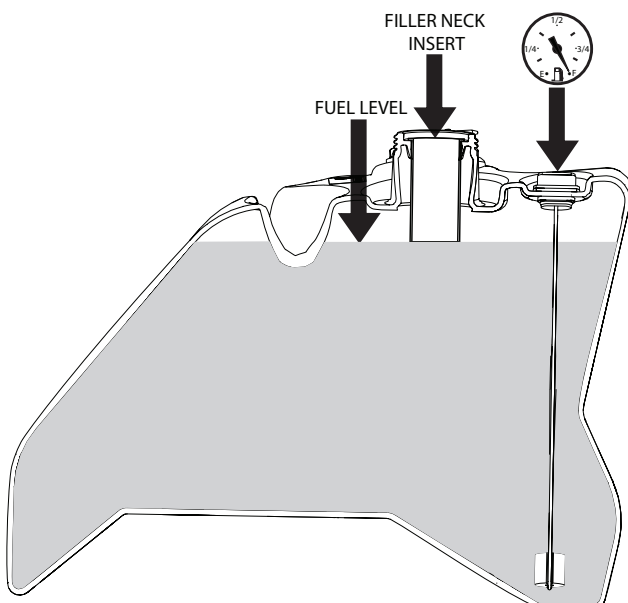

Figure 7-5. C.A.R.B. / EPA Phase 3 Fuel Level
Fill the fuel tank to the bottom of the filler neck insert (approximately 7 gallons for 36" models or 8 gallons for all other models indicating Full (F) on the fuel gauge) at the beginning of each operating day. See Figure 7-5. Do not overfill. Use clean, fresh unleaded gasoline with a minimum octane rating of 87 and a maximum of 10% Ethanol.